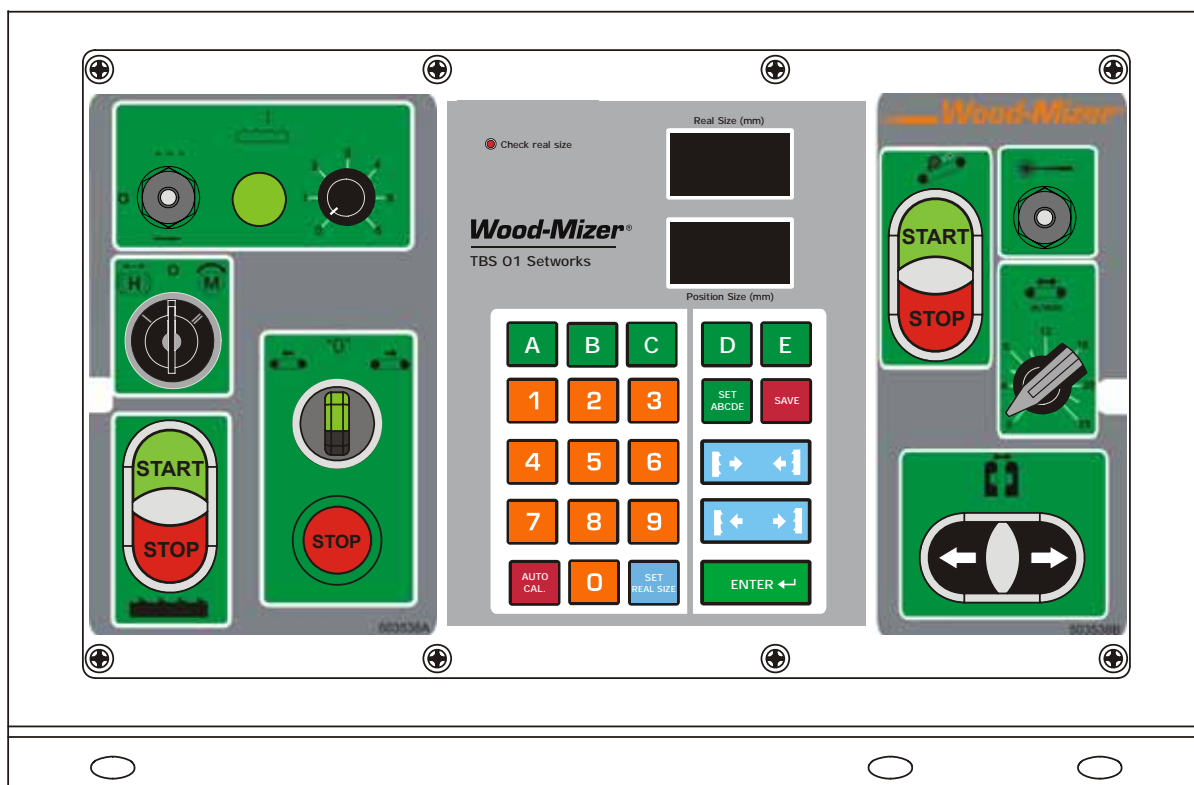

FIG. 2-6
**See Figure 2-6.** Start the blade motors. To do this, turn the key switch to the  position and then push the Blade START button on the control panel (see the figure below). The motors should start and the blades should start spinning.